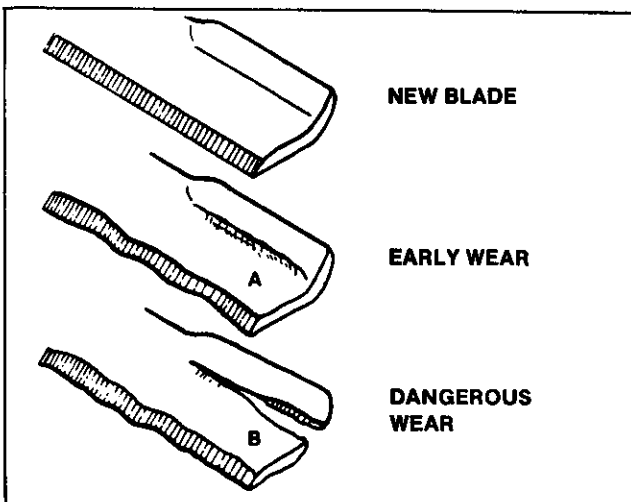

FIGURE 12
3. Examine the blade at the area of the upturned air vanes for the type of wear displayed in Figure 12. Abrasives encountered by the blade can wear metal until it cracks as shown in "A" of Figure 12. Because such cracks, enlarging as in "B," can result in the pieces breaking off to become potentially injurious projectiles, blades should be replaced at the first sign of a crack.